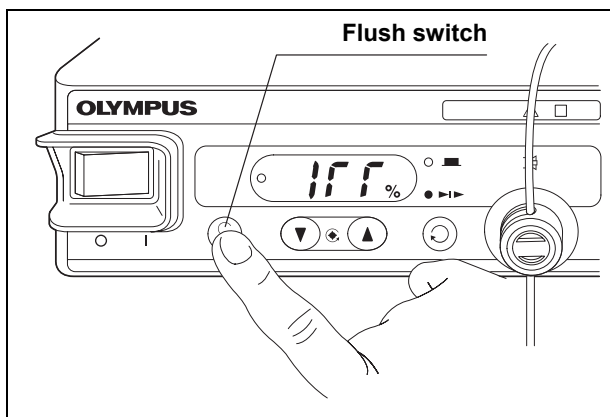

Figure 6.5
5. Irrigation water can also be supplied by pressing the flush switch on the irrigation unit (see Figure 6.5).